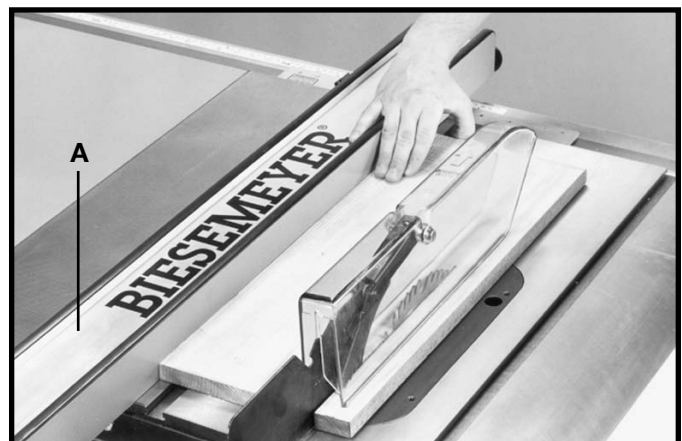

Fig. 130
Ripping is the operation of making a lengthwise cut through a board, as shown in Fig. 130, and the rip fence (A) is used to position and guide the work. One edge of the work rides against the rip fence while the flat side of the board rests on the table. Since the work is pushed along the fence, it must have a straight edge and make solid contact with the table. The saw guard must be used. The guard has anti-kickback fingers to prevent wood kickback, and a splitter to prevent the wood kerf from closing behind the blade.
Start the motor and advance the work holding it down and against the fence. Never stand in the line of the saw cut when ripping. Hold the work with both hands and push it along the fence and into the saw blade as shown in Fig. 130. The work can then be fed through the saw blade with one or two hands. After the work is beyond the saw blade and anti-kickback fingers, the hand is removed from the work. When this is done the work will either stay on the table, tilt up slightly and be caught by the rear end of the guard or slide off the table to the floor. Alternately, the feed can continue to the end of the table, after which the work is lifted and brought back along the outside edge of the fence. The cut-off stock remains on the table and is not touched with the hands until the saw blade is stopped, unless it is a large piece allowing safe removal. When ripping boards longer than three feet, it is recommended that a work support be used at the rear of the saw to keep the workpiece from falling off the saw table.